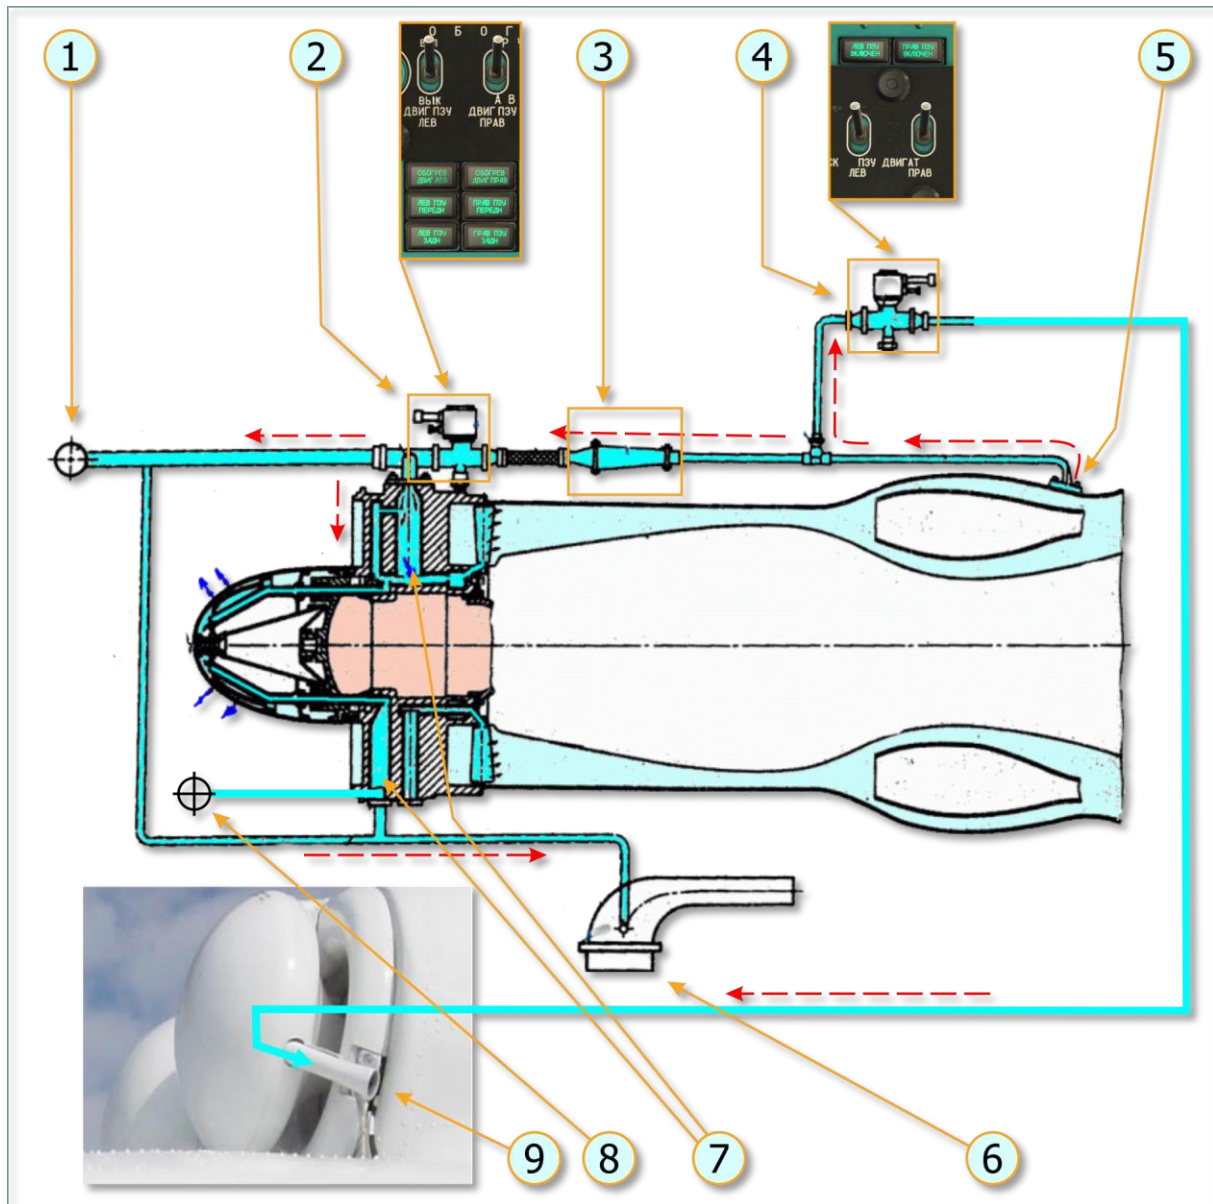
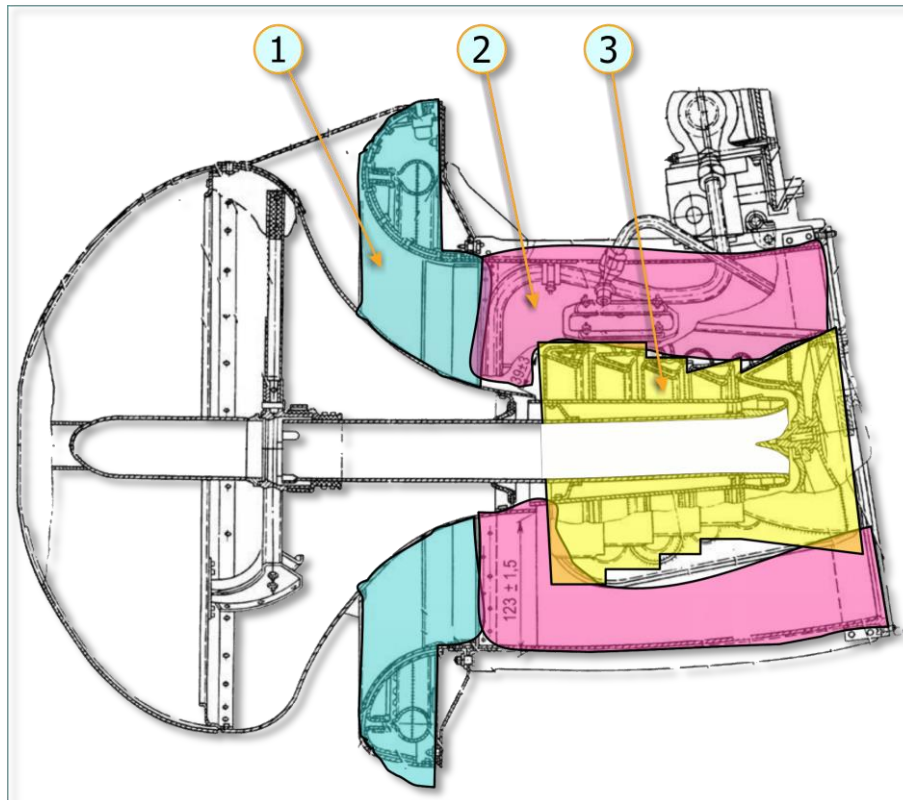

Fig. 7.14. Diagram of Hot Air Bleed for PSS and Engines' Inlets anti-ice system and for PSS Needs
Fig. 7.15. PSS parts heated by hot air
Heating hot air is bled from combustor cooling loop (5), Fig. 7.14.
In PSS, the following surfaces are heated by hot air (Fig. 7.15): intake lip and duct surface, PSS trap, HP-3BM governor thermal compensator air receiver (Fig. 7.14, 6).